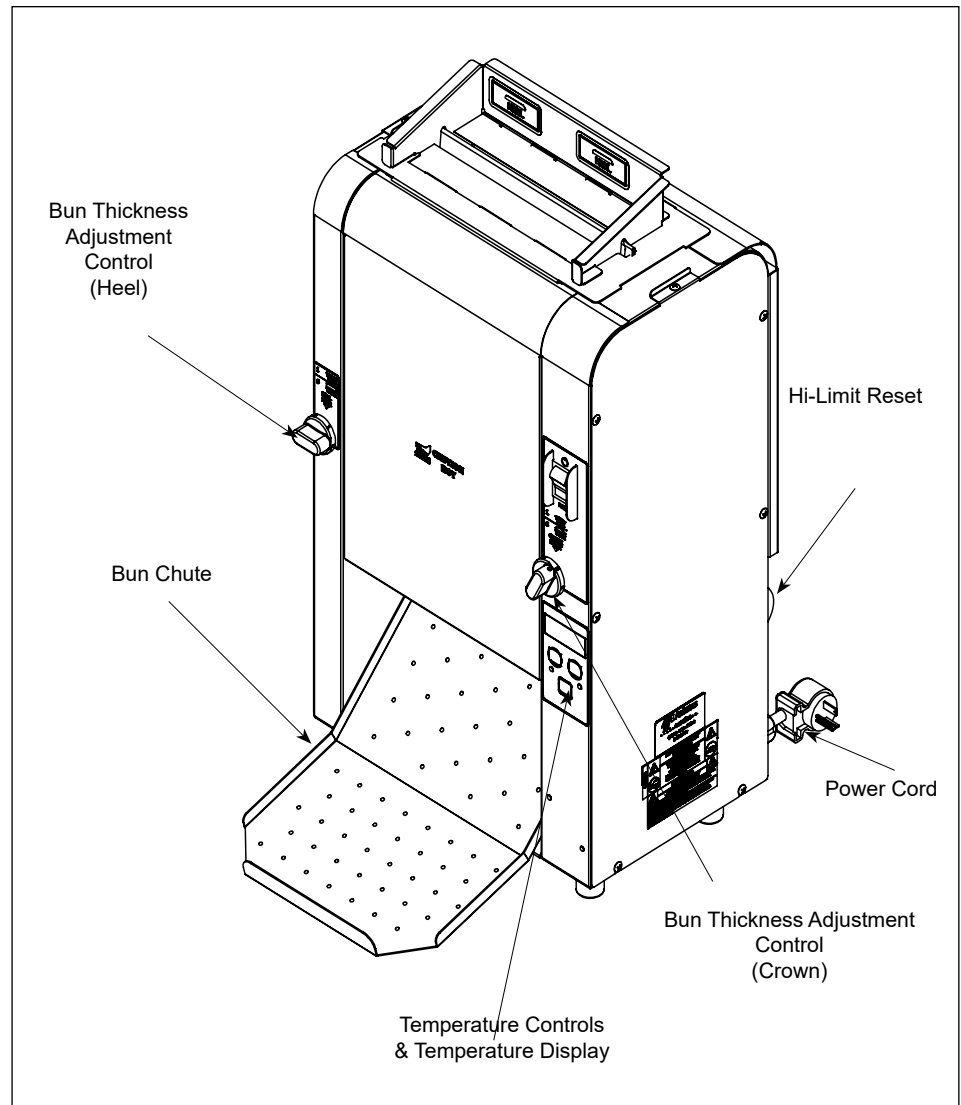

Figure 3. VCTM-2 Toaster
1. Set the Bun Thickness Adjustment Controls (Figure 3).
NOTE: The display (Figure 3) flashes "LO" during warm-up. "USE" appears when the toaster is ready for use.
4. Toasted buns drop onto the Bun Chute (Figure 3).
A Hi-Limit Control turns off power to the unit if it overheats. To reset the control, allow the unit to cool, then locate the Reset Button at the rear of the unit. Remove the black protective cap, press the Reset Button, and reinstall the protective cap (Figure 3).